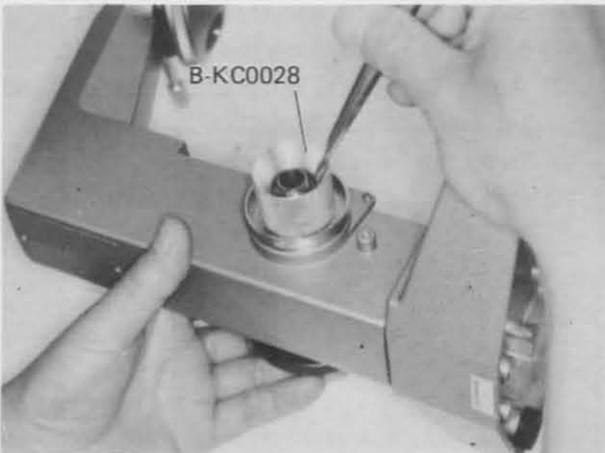

Fig. 4-9
(2) While taking care not to apply grease to the thread of Pinion shaft ZJ808900, set the balls by using tweezers. (See Fig. 4-9)
(3) Remove Jig B-KC0028.